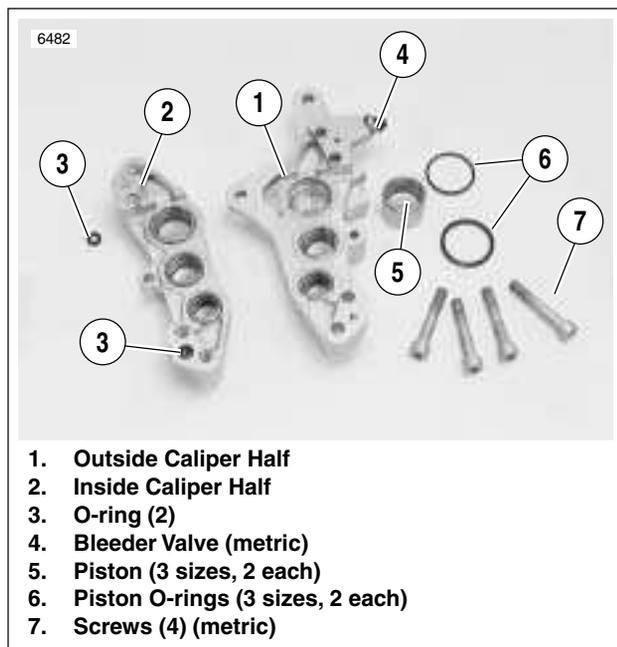

Figure 2-32. Caliper O-Rings and Pistons
4. See Figure 2-32. Pry O-rings (6) out of their respective grooves on each side of caliper. Discard O-rings.
5. Check bleeder valve (4) (metric). Remove and replace if damaged.
1. See Figure 2-32. Install pistons and O-rings.
- b. Install two **new** O-rings (6) in grooves of each piston bore.
- c. Install pistons (5) in each piston bore.
2. Install two **new** O-rings (3) between caliper halves.
3. Attach caliper halves together with four screws (7) (metric). Tighten to 14.5-18 ft-lbs (20-24 Nm).
4. Install a **new** bleeder valve (4) (metric) if necessary. Tighten to 3-5 ft-lbs (4-7 Nm).